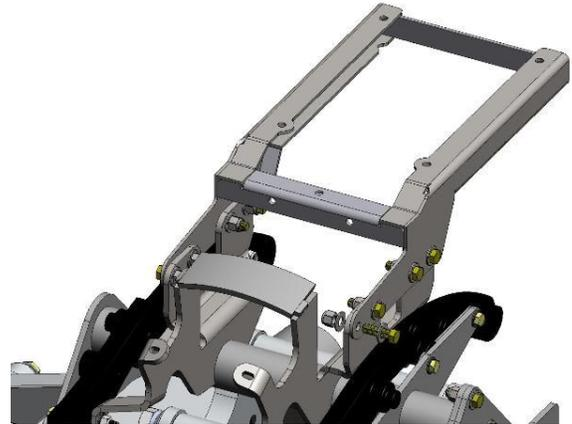

Figure 22
- a. Install tour box frame to seat / upper mount using the supplied hardware. **Figure 22.**